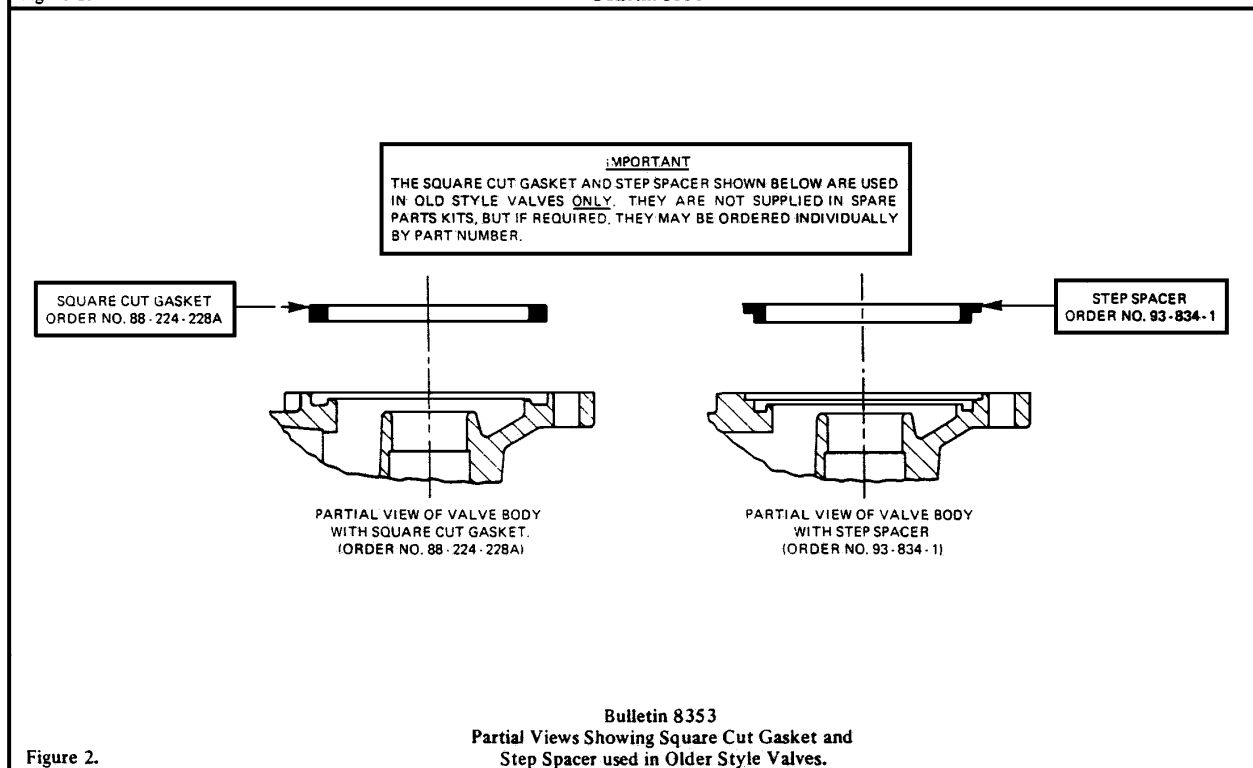

Figure 2.
1. Remove bonnet screws, valve bonnet, diaphragm spring and diaphragm assembly. If the valve you are disassembling contains a square cut gasket or a step spacer as shown in the sectioned view, Figure 2, the square cut gasket or step spacer need not be replaced unless damaged. If a replacement is required, order by the numbers indicated in Figure 2.
Valve Disassembly (see Figures 2, 3 & 4)
- Replace solenoid base gasket, core assembly with core spring and solenoid base sub-assembly. Note: For core assemblies with internal type core springs, install wide end of core spring in core assembly first, closed end of core spring protrudes from top of core assembly. (see Figure 2)